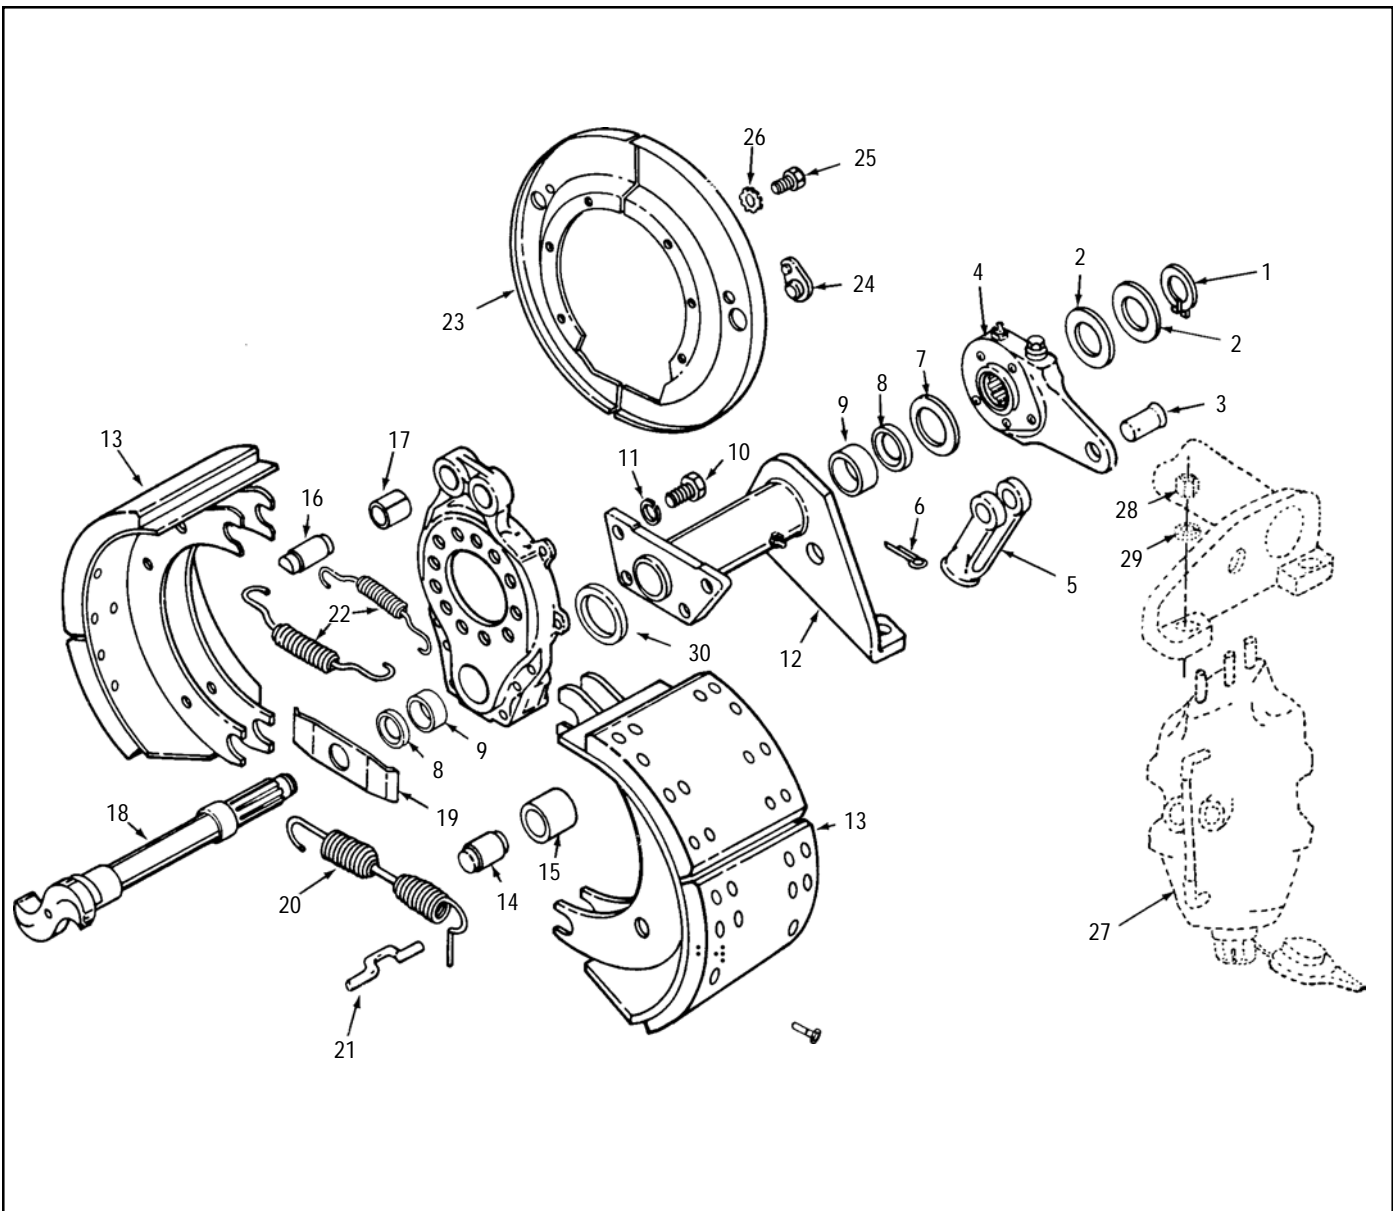

FIGURE 2 - 16-1/2" DOUBLE ANCHOR PIN S-CAM BRAKE
DISASSEMBLY (See Figure 2)
10. Remove the actuator bracket and cam tube from the spider by removing the four cap screws and lockwashers using a 3/4" socket. Remove and discard the sealing gasket from the end of the actuator bracket (See Figures 2 and 7).